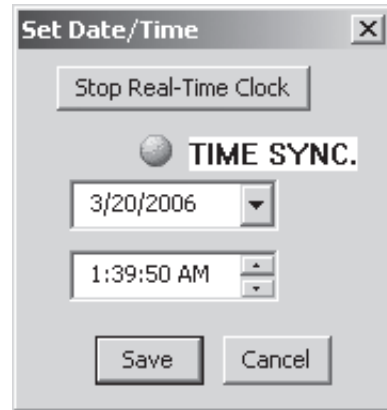

Figure 4-6 Set Date/Time Dialog Screen
The clock is disabled when shipped from the factory (indicated by "80" seconds appearing on the clock) to preserve battery life. If the MBTS is to be unpowered for an extended length of time, the clock should be stopped (from Diagnostic Mode or ISScom® Figure 4-6). If the IRIG-B interface is used, the hours, minutes, and seconds information in the clock will be synchronized with IRIG-B time information every hour.
1. From the ISScom Main Screen menu select **System/Setup/Set Date/Time**. ISScom will display the Set Date/Time dialog screen (Figure 4-6).